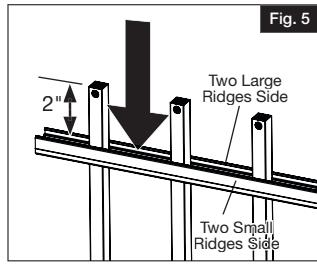

Fig. 5
b. Insert all balusters through the square holes in both top and bottom rails, making sure the hole in each baluster goes in the same direction facing the side with the two (2) small ridges (Fig. 5).
c. Make sure the balusters in the rails are about 2" above the rail and in-line with each other (Fig. 5).
- Hold each respective bracket (angled) against the post face, align bracket with stair panel and mark all four (4) ends of the rail panel (Fig. 5).